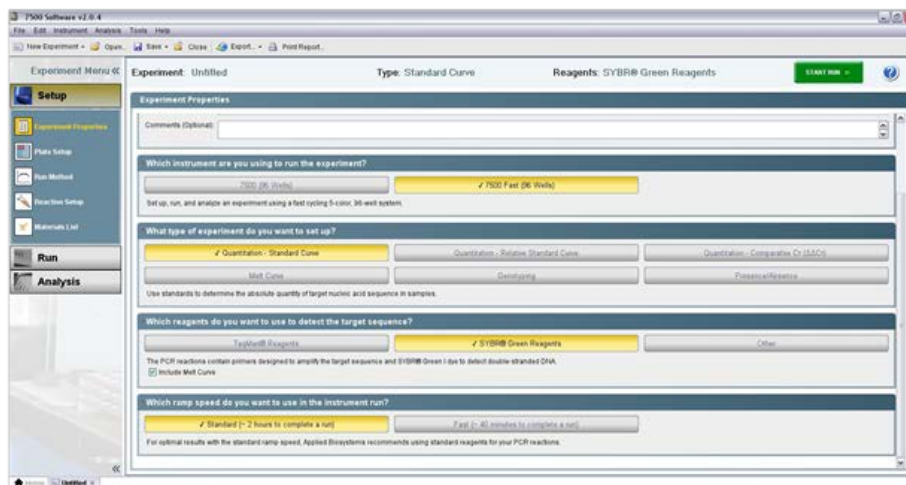

Figure 1. Experiment properties.
3. Under "Setup" > "Experiment Properties" menu (see Figure 1)